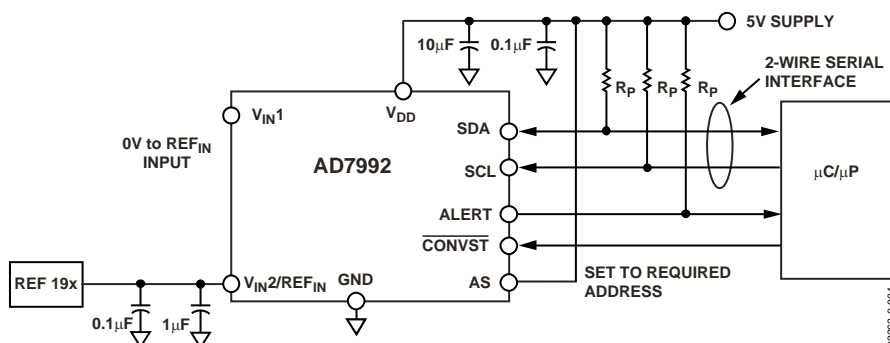

Figure 21. AD7992 Typical Connection Diagram, Single-Channel Mode, Mode 1
Figure 21 shows the typical connection diagram for the AD7992. In Figure 21, the address select pin (AS) is tied to  $V_{DD}$ ; however AS can also be tied to AGND or left floating, allowing the user to select up to five AD7992 devices on the same serial bus. An external reference must be applied to the AD7992. This reference can be in the range of 1.2 V to  $V_{DD}$ . A precision reference like the REF 19x family, ADR03, or ADR381 can be used to supply the reference voltage to the ADC. The AD7992 can be configured to be a single-channel device with the reference voltage applied to the  $V_{IN2}/REF_{IN}$  pin. The AD7992 can also be configured as a dual-channel device where the reference voltage is taken from the supply voltage  $V_{DD}$ , and the  $V_{IN2}/REF_{IN}$  takes on its analog input function,  $V_{IN2}$ .